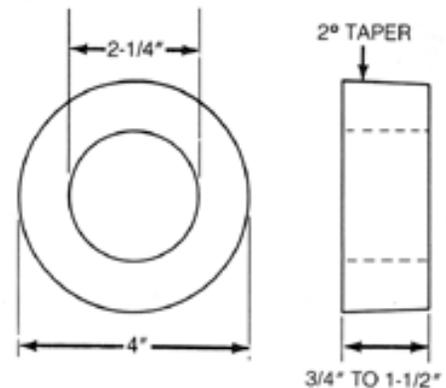

Figure 25-7. How to make a “doughnut” reducer:
- If multiple-size “Y” fittings are not available, 4" x 4" x 4" “Y”, fittings may be used. Wooden “doughnut” reducers can then be made to adapt the 4" I. D. branch of each “Y” to accept the 2-1/4" (outer diameter) male fitting of the 2-1/2" diameter flexible hoses. (See Figure 25-7.)